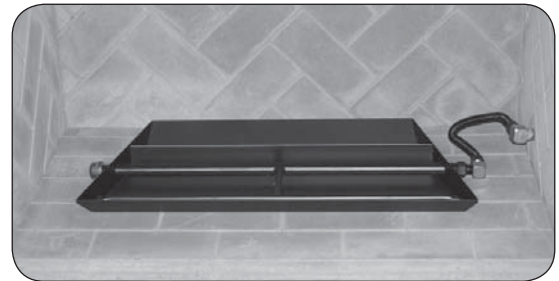

Fig. 9-2 Center burner in fireplace
4. Place the burner system in the fireplace. Center the burner from left to right in the fireplace. (Reference Fig. 9-2 for orientation.)